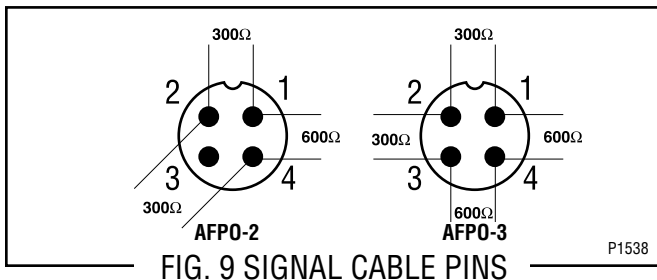

FIG. 9 SIGNAL CABLE PINS
4. Check resistance across pins as shown in Fig. 9.
5. With the probe box switch in “LOW” position check the resistance across the signal cable pins, see Fig. 9.